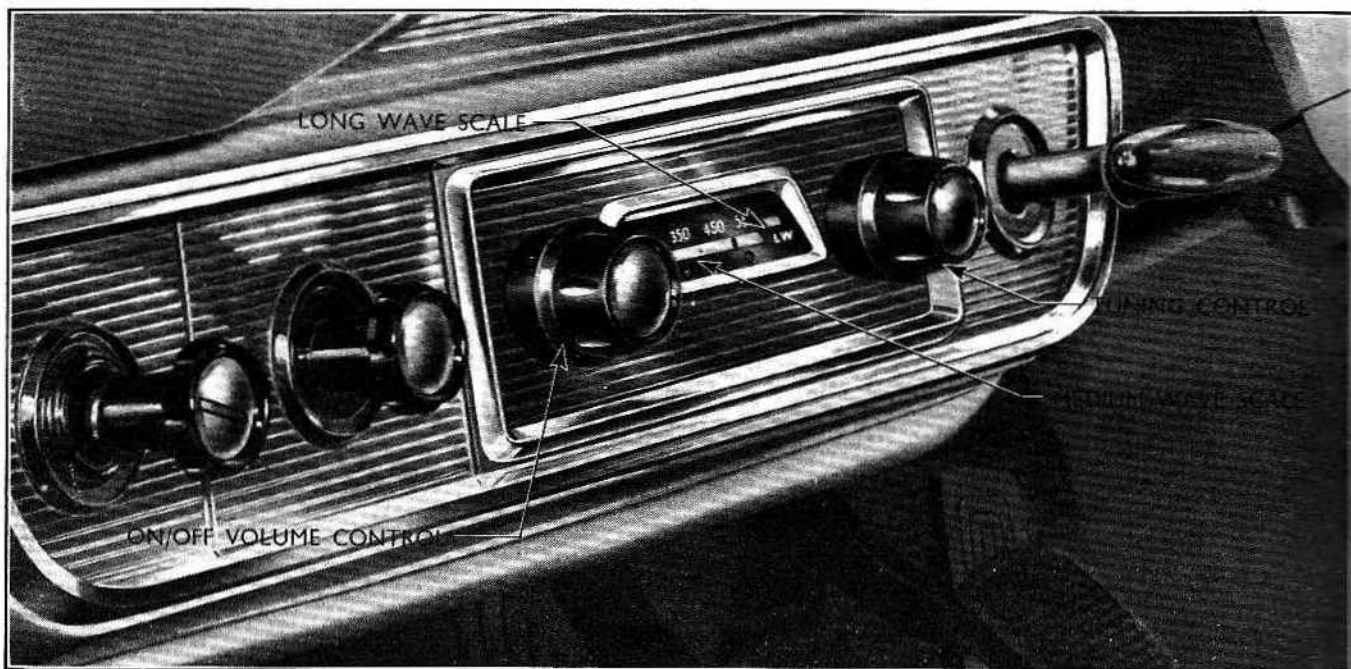

Fig. 598
Fig. 598 illustrates the two controls.
- 1 The receiver locates in a central position on the lower facia (see Figs. 598 and 602) which is at present obscured by a removable blanking panel.